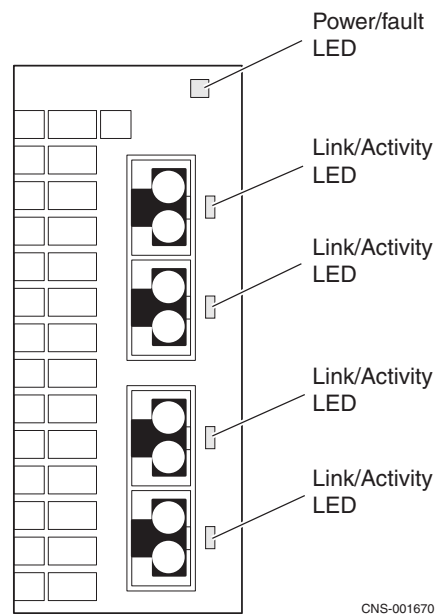

Figure 33 Four-port 8-Gb/s FC I/O module LEDs
The four-port 8-Gb/s Fibre Channel (FC) I/O module has two different types of status LEDs. Figure 33 shows the LEDs and Table 22 describes them.